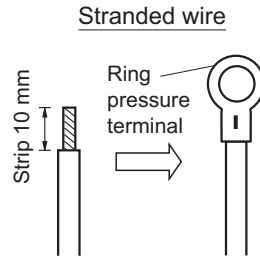
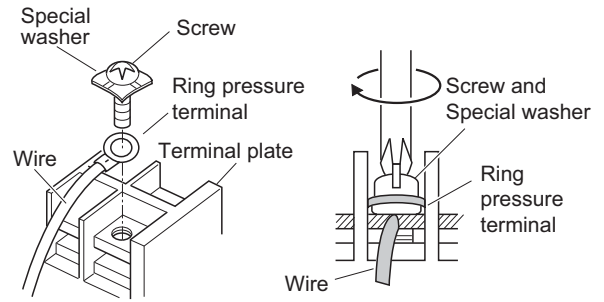

Fig. 1-1
Fig. 1-2
- (1) Cut the wire end with cutting pliers, then strip the insulation to expose the stranded wiring about 10 mm and tightly twist the wire ends. (Fig. 1-1)
- (2) Using a Phillips head screwdriver, remove the terminal screw(s) on the terminal plate.
- (3) Using a ring connector fastener or pliers, securely clamp each stripped wire end with a ring pressure terminal.
- (4) Place the ring pressure terminal, and replace and tighten the removed terminal screw using a screwdriver. (Fig. 1-2)